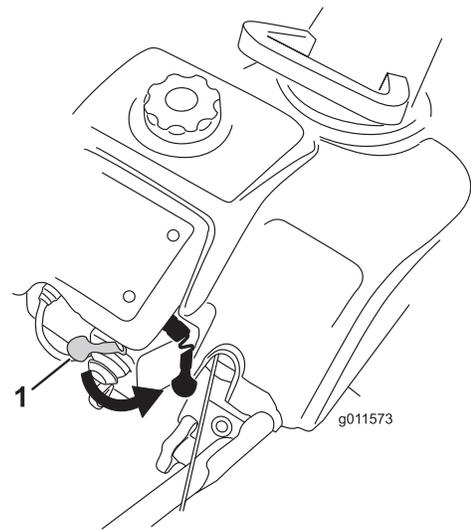

Figure 12
2. Move the choke lever fully to the right (Figure 12).